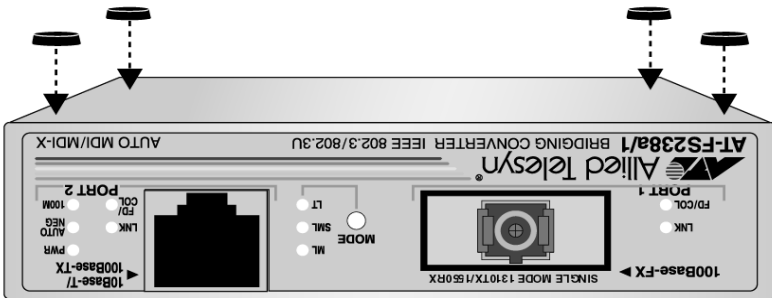

Figure 7 Attaching the Protective Feet
2. Attach the four protective feet (provided) to each corner of the bottom of the unit. Refer to Figure 7. **Do not attach the protective feet if you are installing the bridging converter in an AT-MCR12 chassis.**